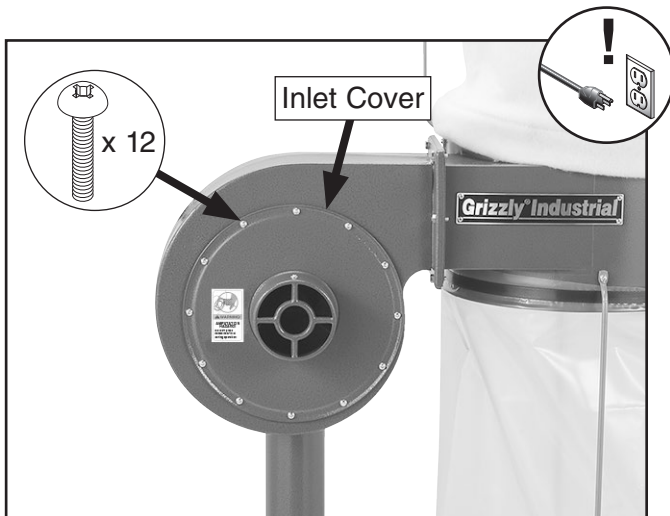

Figure 27. Location of inlet cover and securing screws.
2. Remove (12) Phillips head screws shown in **Figure 27** to remove inlet cover.